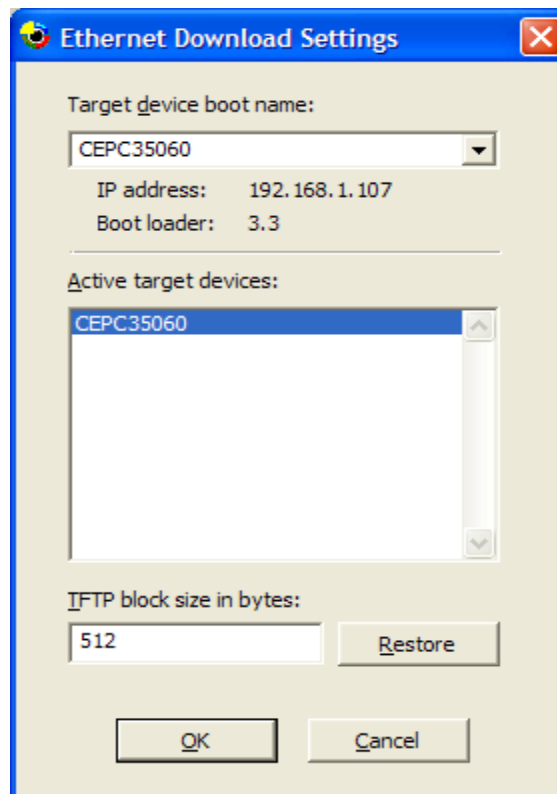

Figure 60. VS 2005 Ethernet Download Settings
3. After eBox-2300 boots-up and sends a boot-me request, the Ethernet Download Settings dialog screen, select device ID listed in the Active target devices list box. Refer to figure 60.